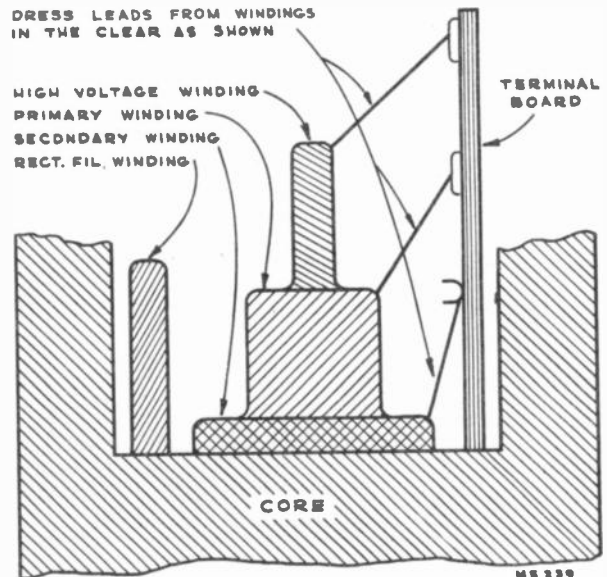

Figure 17— T110 Lead Dress
15. Dress T110 winding leads as shown in Figure 17.